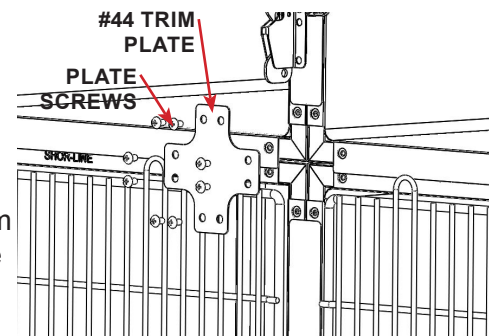

FIGURE 2.46 - Trim Plate #44
**STEP 24:** Remove the bottom right trim plate screws from the next cage in the row and the cage below. See FIGURE 2.46
**STEP 25:** Install, but do NOT fully tighten screws, trim plate (#44) using the screws removed in the previous step. See FIGURE 2.46